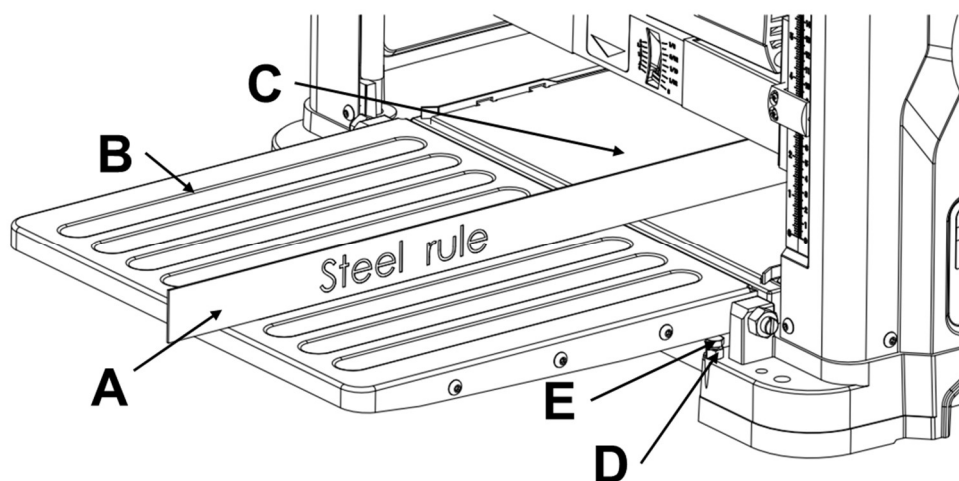

FIG 5
1. Place a straight edge (A) on the planer table (C) across the infeed table (B). SEE FIG 5.
3. If an adjustment is necessary, raise table, loosen lock nuts (D) and adjust Hex Head Screws (E) on each side of the table until the infeed table is level with the planer table. This will adjust the outer edge of the table. (SEE FIG 5)